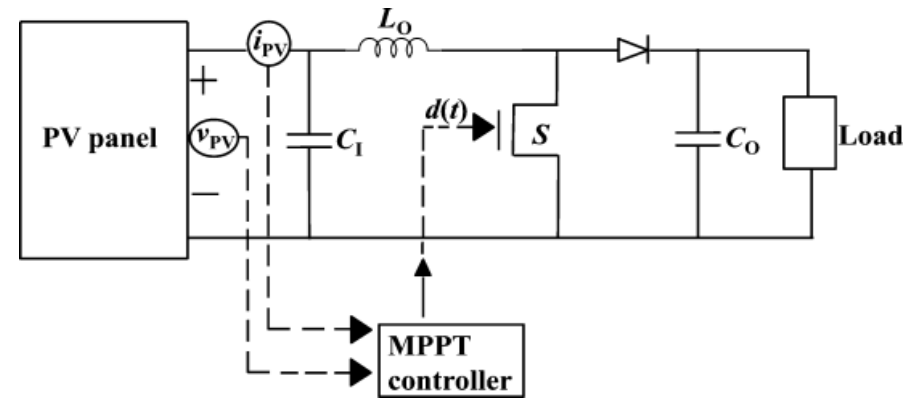

Figure 3: Example of MPPT controller in a photovoltaic boost converter system
- Digital implementation (Figure 3) offers flexibility and simplicity if rad-hardened devices are available